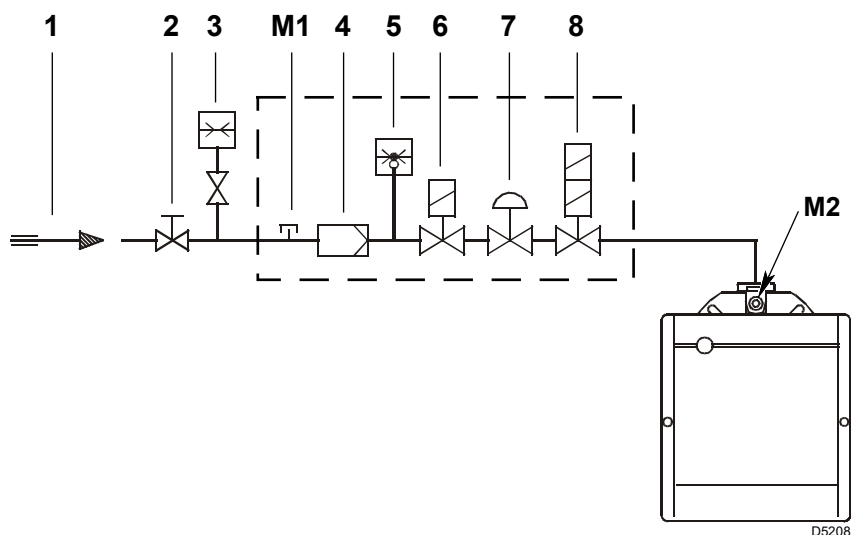

Fig. 16
Key (Fig. 16)
Gas pressure measured at test point M2)(Fig. 16 on page 18), with:
- subtract the pressure in the combustion chamber from the pressure of the gas at test point M2)(Fig. 16 on page 18).
Gas pressure at test point M2)(Fig. 16 on page 18)= 10 mbar
To calculate the required gas pressure at test point M2)(Fig. 16 on page 18), with the maximum modulating output at which you want the burner to operate having been fixed:
- Read on the right, column 1, the pressure at the socket M2)(Fig. 16 on page 18).
pressure required at the test point M2)(Fig. 16 on page 18).